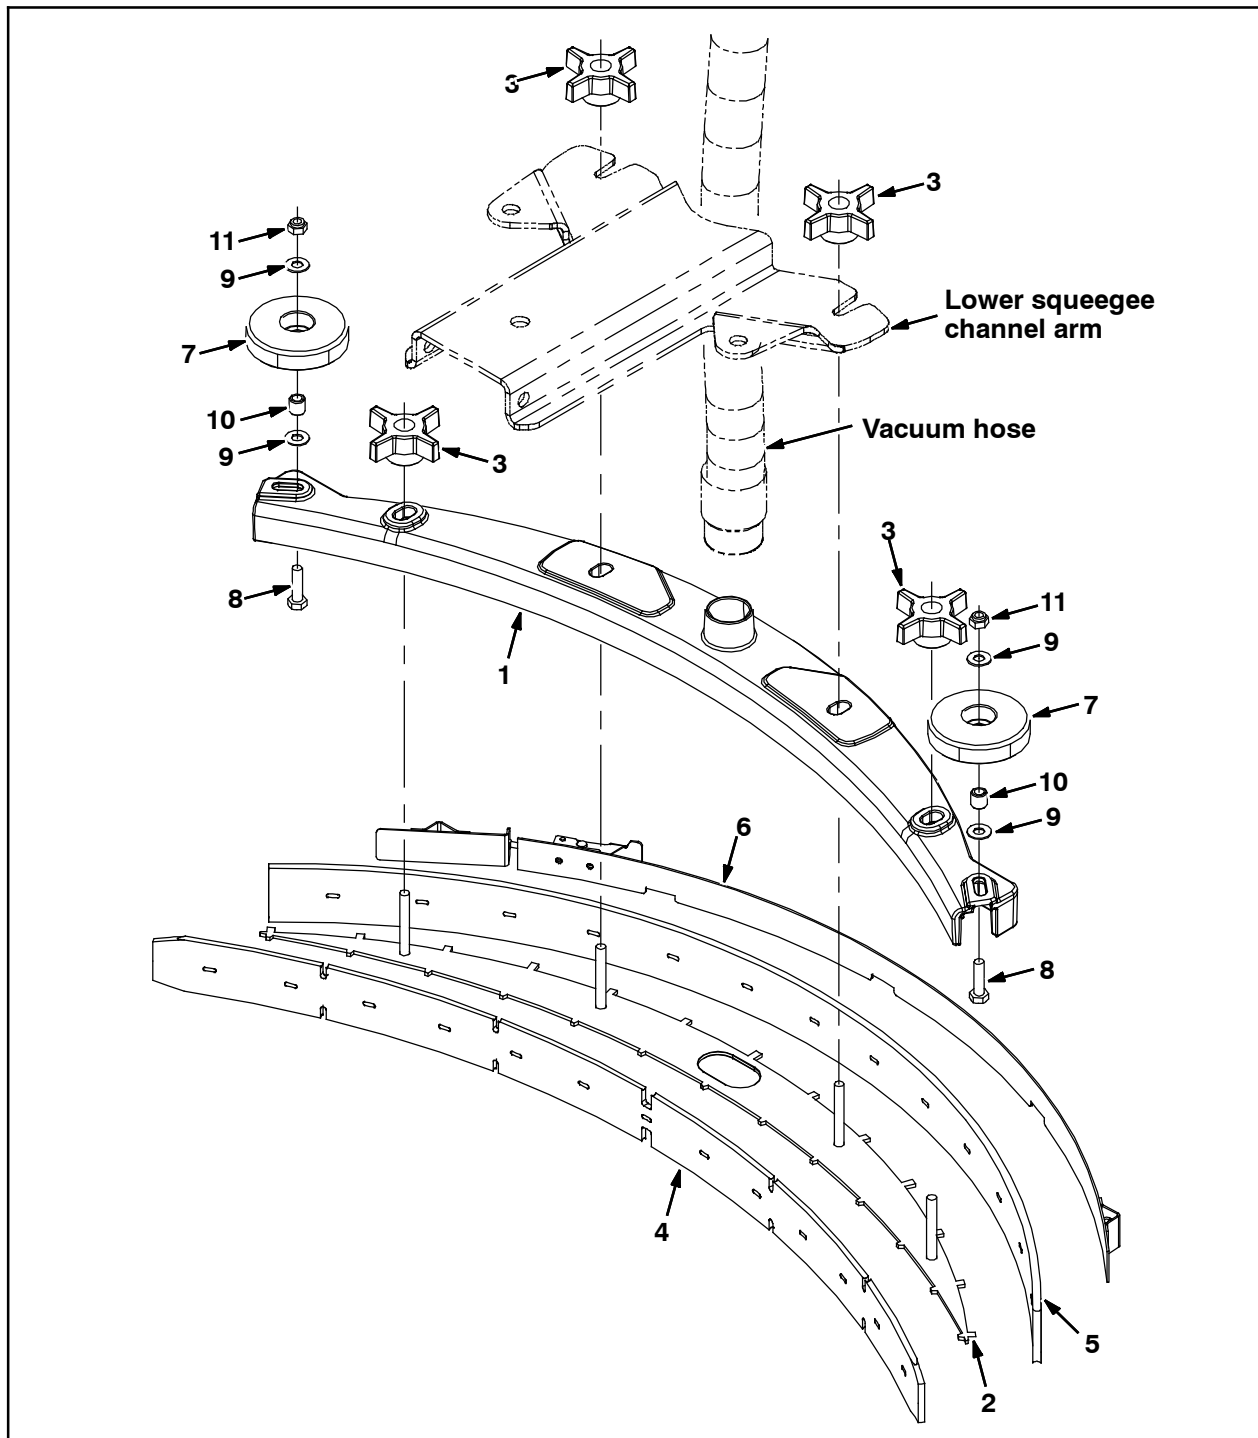

FIG. 8
1. Remove the vacuum hose from the rear squeegee assembly. Refer to Fig. 8.
NOTE: For the remainder of this Instruction Bulletin, refer to Fig. 8 for part locations and orientation of parts on the squeegee assembly.
11. Tighten the star knobs (3) to secure the squeegee retainer plate (2) into place inside the squeegee frame (1). Refer to Fig. 8.
12. Use the two remaining star knobs (3) to install the squeegee assembly onto the lower squeegee channel arm. Refer to Fig. 8.
13. Install the vacuum hose onto the rear squeegee assembly. Refer to Fig. 8.